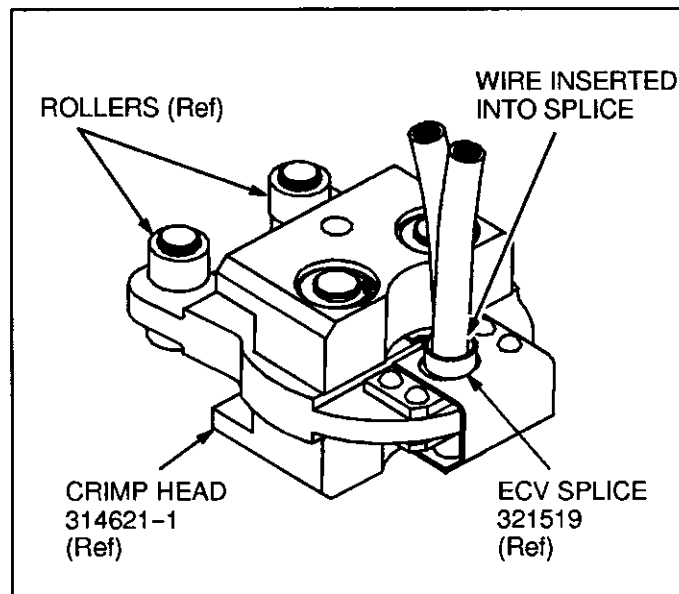

Fig. 4
4. Insert stripped wire into splice until the end of the conductor bottoms against the splice. See Figure 4.